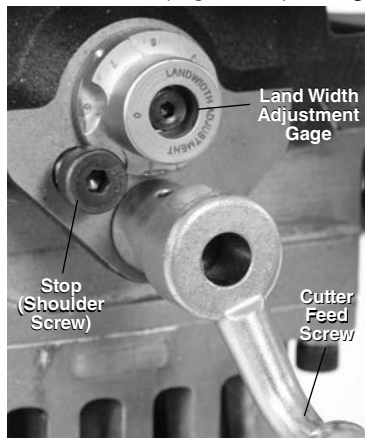

Figure 18 – Land Width Adjustment Gage Setting
6. Set the desired bevel land width (Figure 18) using the land width adjustment gage. If set to "0" there will be no land on the end of the pipe. Each step on the land width adjustment gage is approximately a 1/32" (0.8 mm) different from the adjacent step. (1 ~ 0.03" (0.8 mm) land width, 2 ~ 0.06" (1.6 mm), etc.) Move the needed step of the gage so it aligns under the head of the stop.
- Using a smooth continuous clockwise rotation of the cutter feed screw (Figure 18); engage the cutter head into the work piece until the stop contacts the land width adjustment gage. Do not use cutting oil or coolant.